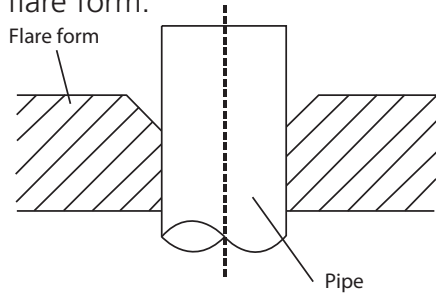

**Fig. 7.4**
3. Place flare nuts on both ends of pipe. Make sure they are facing in the right direction, because you can't put them on or change their direction after flaring. See Fig. 7.4